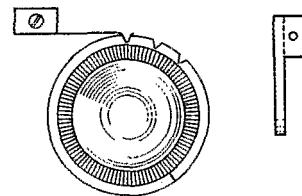

Fig. 4
**I**N ANY receiver using electrical band-spread, with the padding condensers controlled from the front of the panel, the padders have to be set very accurately at a predetermined capacity for each band. The low-cost superhet described in *QST* for October 1938 is one of this type. The sketch of Fig. 4 shows an attachment for the oscillator-padder knob which has neatly solved